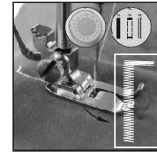

Fig.16
- (3) Choose the 16th stitch, turn on switch and sew on the cloth in suitable length, then turn off switch. Note that try to keep sewed stitches in straight line (Fig.16).